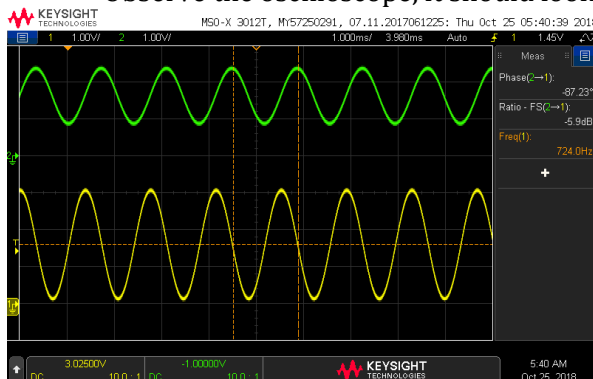

Figure 3: The input and output of the low-pass filter.
- Observe the oscilloscope, it should look something like Figure 3.